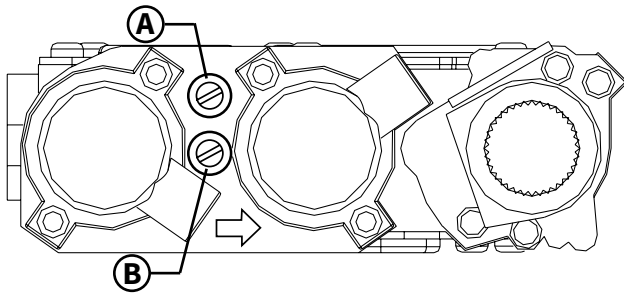

Figure 8.1. Pressure test points.
**Pressure Test:** Attach a manometer to the appropriate test point on the valve. See fig. 8.1. The gauge connections are located on the front of the valve. Connections are identified by: